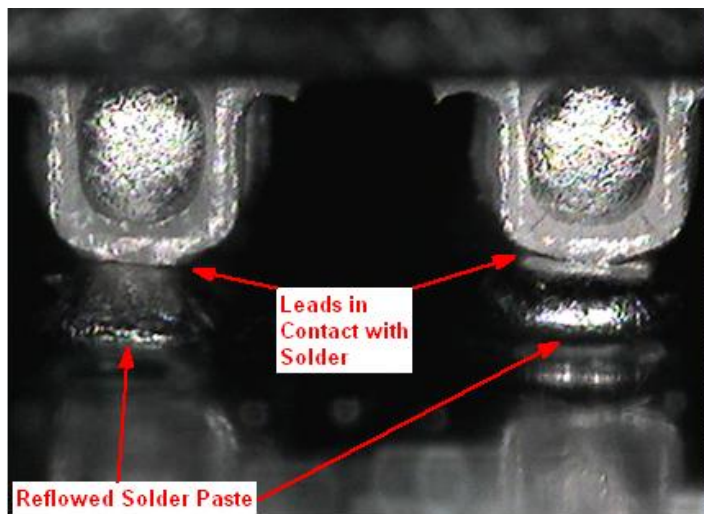
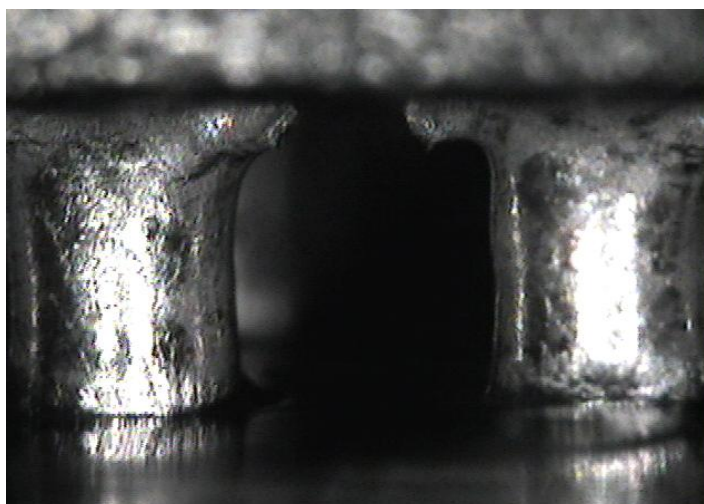

Fig. 10. Defective outer row solder joints.
Fig. 11. Outer row solder joints from Fig. 9 reworked using a hand held hot-air system.
NOTE: One of the most common issues customers face during the initial profiling stage is inadequate heating of the solder charges. **Fig. 10** below is an example of how the solder charges appear when they have not reached proper reflow temperatures. Even though the leads touched the solder printed on the board the wetting was not sufficient to form a good joint. When this is the result, the profile must be adjusted until the solder joints look like those in **Fig. 11**.
- The defects shown in **Fig. 10** below occurred on the outer row of contacts and were reworked using a Hakko FR-802 Hot-Air Rework System and 4.4mm nozzle. The liquid water-soluble flux was applied with a brush at the defect sites and hot-air was introduced by moving the nozzle in a circular motion so as not to damage the connector or board. With the addition of flux and the already present solder, wetting easily occurs and the terminations are soldered. **Fig. 11** shows the same two joints after they were reworked using this method.